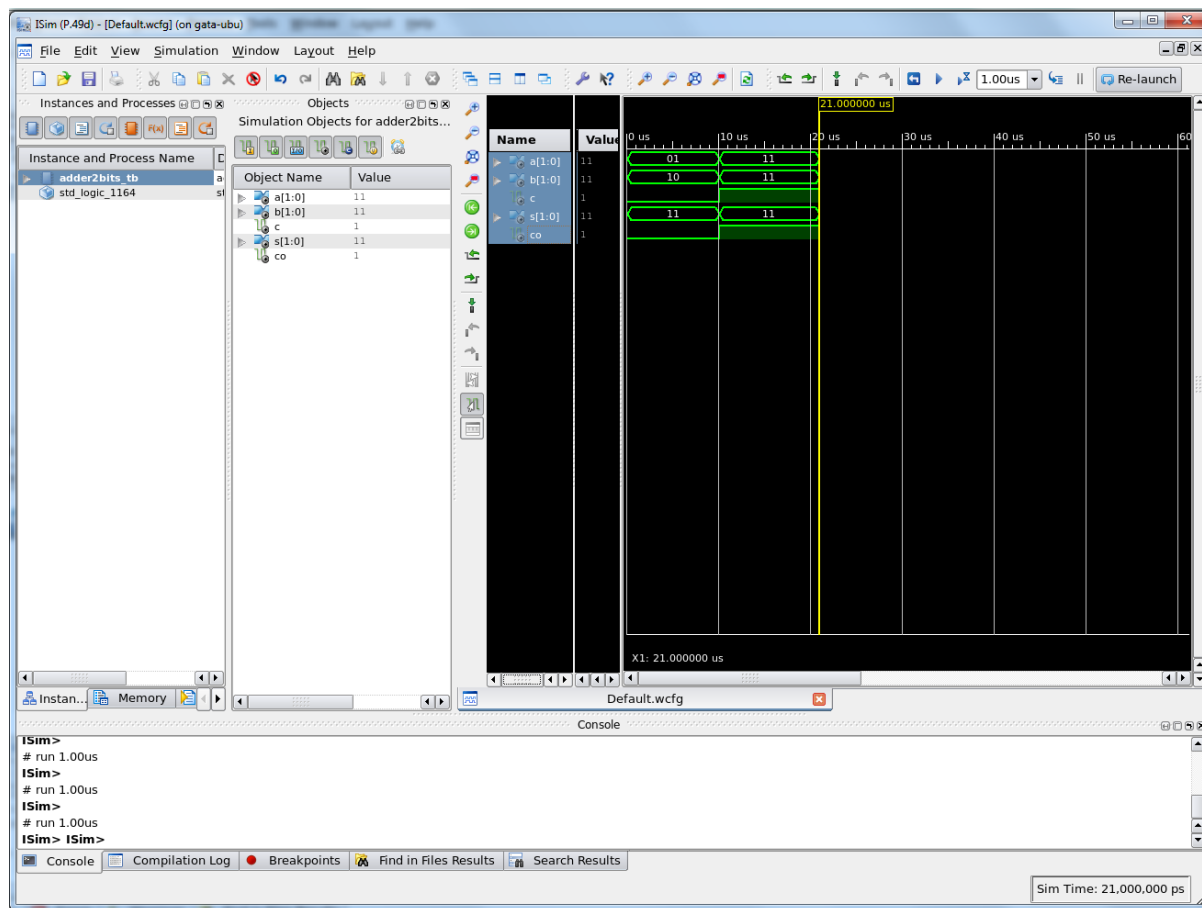

Figure 6 Simulation Results
4. In the process window click “**Behavioral Simulation**” which will start the simulation and run all the steps in the test-bench simulation process as shown in *Figure 6*.